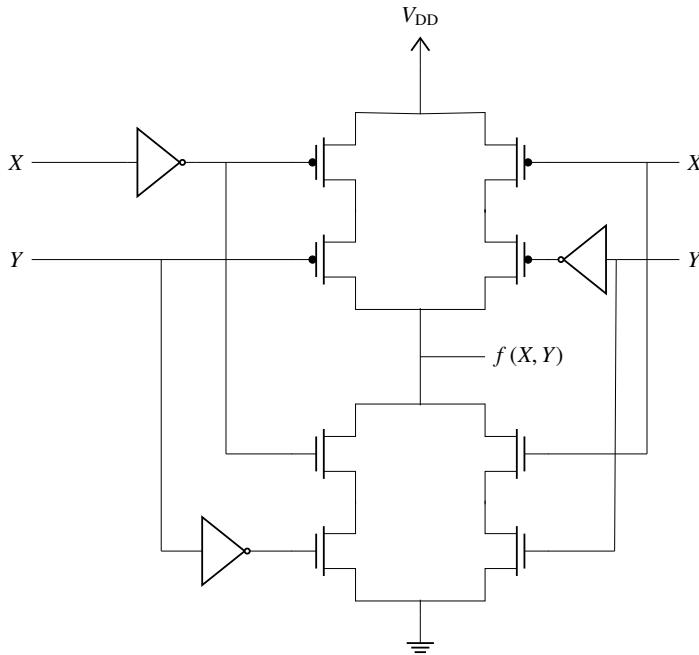

Fig. 3.39
57. The logic function $f(X, Y)$ realised by the given circuit in Fig. 3.39 is